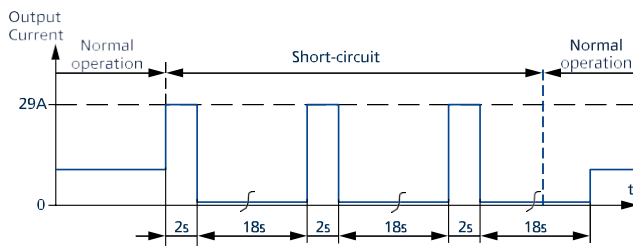

Fig. 6-3: Short-circuit on output, Hiccup^{PLUS} mode, typ.
2) At heavy overloads (when output voltage falls below 13 V), the power supply delivers continuous output current for 2 s. After this, the output is switched off for approximately 18 s before a new start attempt is automatically performed. This cycle is repeated as long as the overload exists. If the overload has been cleared, the device will operate normally. See Fig. 6-3.